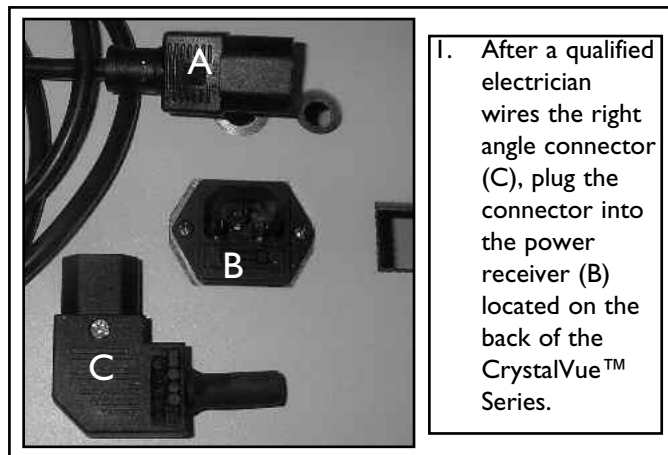

Figure 1E : Back View - 110VAC Power Connections
The CrystalVue™ can be powered with the included Power Cord (A) by plugging directly into the power receiver (B) located on the back. See **Figure 1E**.
To use your own power leads a Right Angle Power Connector (C) may be used (Not Included) see **Figure 1E**.